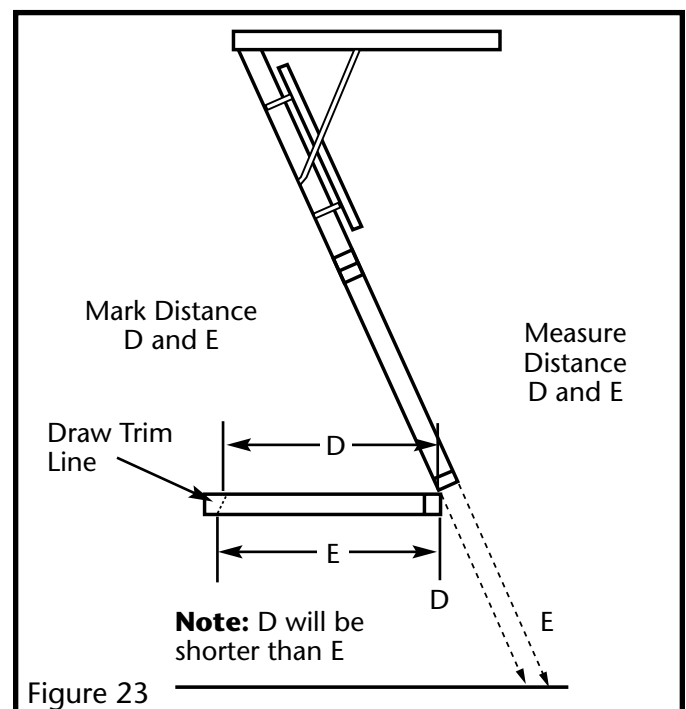

Figure 23
STEP 2. Fold the bottom section of the access ladder under the middle section. (Figure 23)
STEP 3. With a straight edge, measure distances "D" and "E" as shown in Figure 23 and record the measurements in the spaces below. These distances must be accurately measured to avoid trimming the legs too short.
STEP 4. Measure down from the top of the lower section and mark the measurements “D” and “E” on each side rail. Draw a trim line connecting the 2 marks (Figure 23). These trim lines must be drawn accurately to avoid trimming the legs too short.